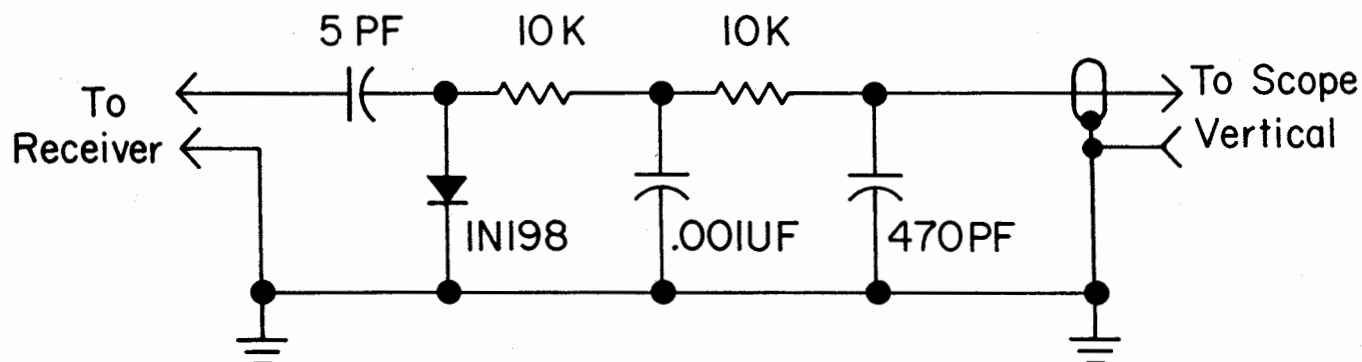

Figure 33 - Detector probe for sweep alignment of MASTR receivers
3. Using the detector probe shown in Figure 33, connect the scope input to the collector of Q3 (1st limiter) on the IF, Audio and Squelch Board.
8. Using the detector probe shown in Figure 33, connect the oscilloscope input to the base of the second mixer transistor. Connect the scope sync to the sweep modulator to obtain a double trace. Keep the signal below limiting.